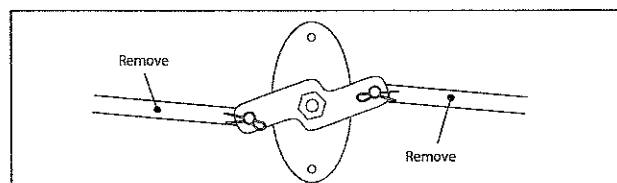

FIG. 1-6 Disable garage door lock.
**REMINDER:** You should have removed all ropes and/or cables and disabled the door lock already. If you have not, remove all ropes and/or cables and disable garage door lock **NOW** before continuing with installation (Fig. 1-6).